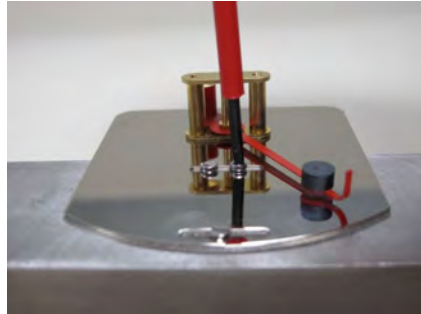

Fig. 41
5. ➔ Loosen fixing screws of the display base plate (Fig. 41) and remove the display base plate.